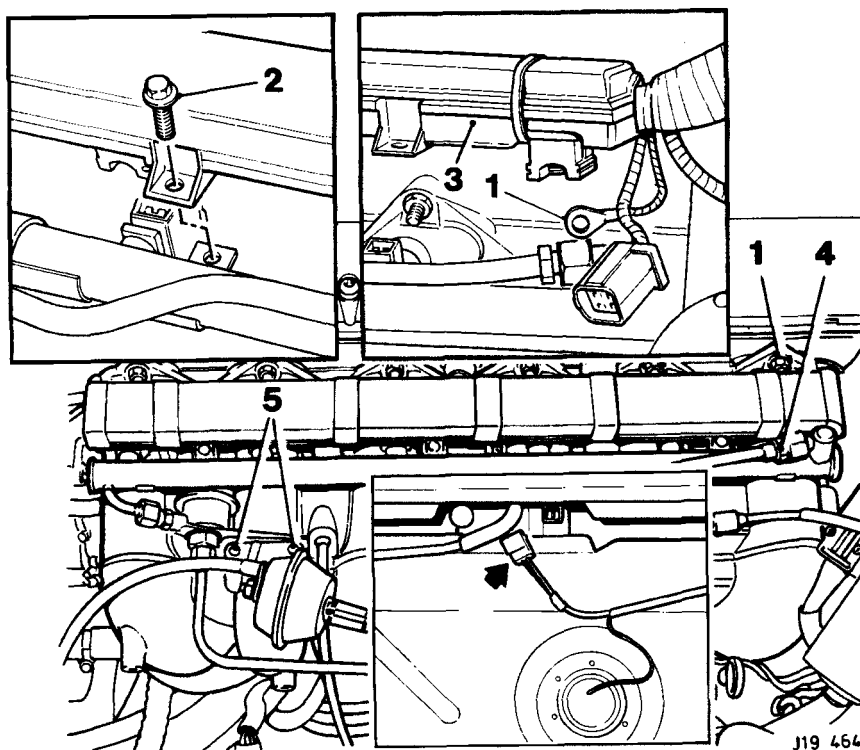

Fig. 1
- Disconnect multi-plug from evaporative loss flange inset (Fig.1).